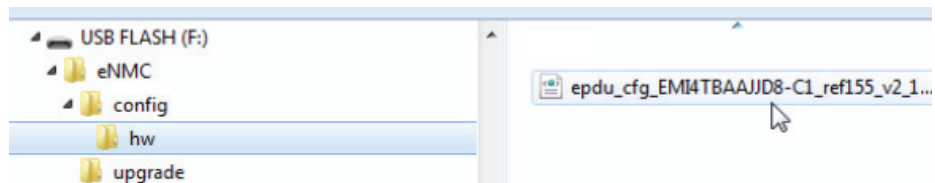

Figure 89. USB Root Directory
- Select Save eNMC file to save the ePDU hardware configuration file to the USB drive. The file will save to the eNMC/config/hw path at the USB drive root directory (see Figure 89).